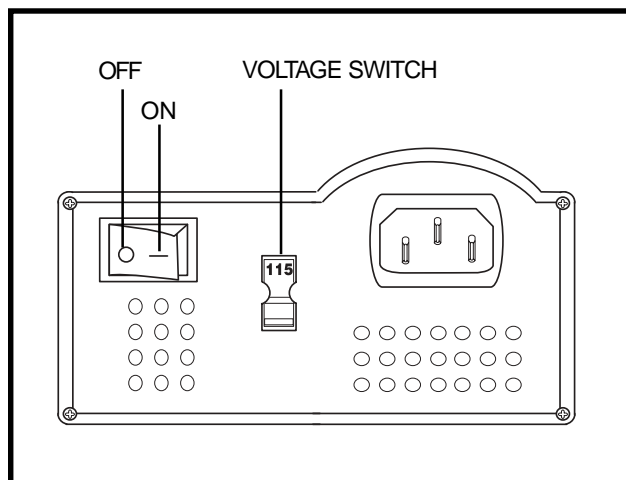

Figure 7. Charger On/Off and Voltage Switches
The off-board charger supplied with your scooter is equipped with a 115/230 voltage switch. Confirm that this switch is in the proper position for your locality. If you are not sure what the voltage is in your country, contact your local electricity provider before inserting the charger power cord into your electrical outlet. If the setting is incorrect, the charger will not function properly. Slide the voltage switch to the appropriate position. See figure 7.
4. Make sure that the charger's on/off switch is in the OFF position. See figure 7.
7. Turn the charger on. See figure 7. We recommend that you charge your batteries for 8 to 14 hours.